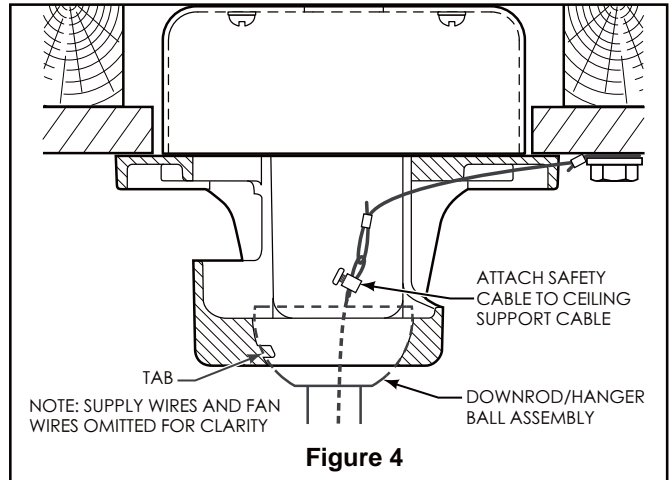

Figure 4
4. Route wires through motor coupling cover, canopy screw cover and ceiling canopy with open side facing up. (Figure 4)
- 4. Carefully lift the fan and seat the downrod/hanger ball assembly on the hanger bracket that was just attached to the ceiling joist. Be sure the groove in the ball is lined up with tab on the hanger bracket. (Figure 4)
- 5. Attach the safety cable to ceiling support cable. Slide cable clamp onto safety cable (from fan). Place the end of cable through the loop of ceiling support cable. Pull as much cable through loop as possible. Feed end of cable into clamp hole and firmly tighten screw (Figure 4). Cut off excess safety cable.
4. Securely attach 9-pin connector from motor assembly to wiring harness socket within switch cover assembly. (Figure 4)